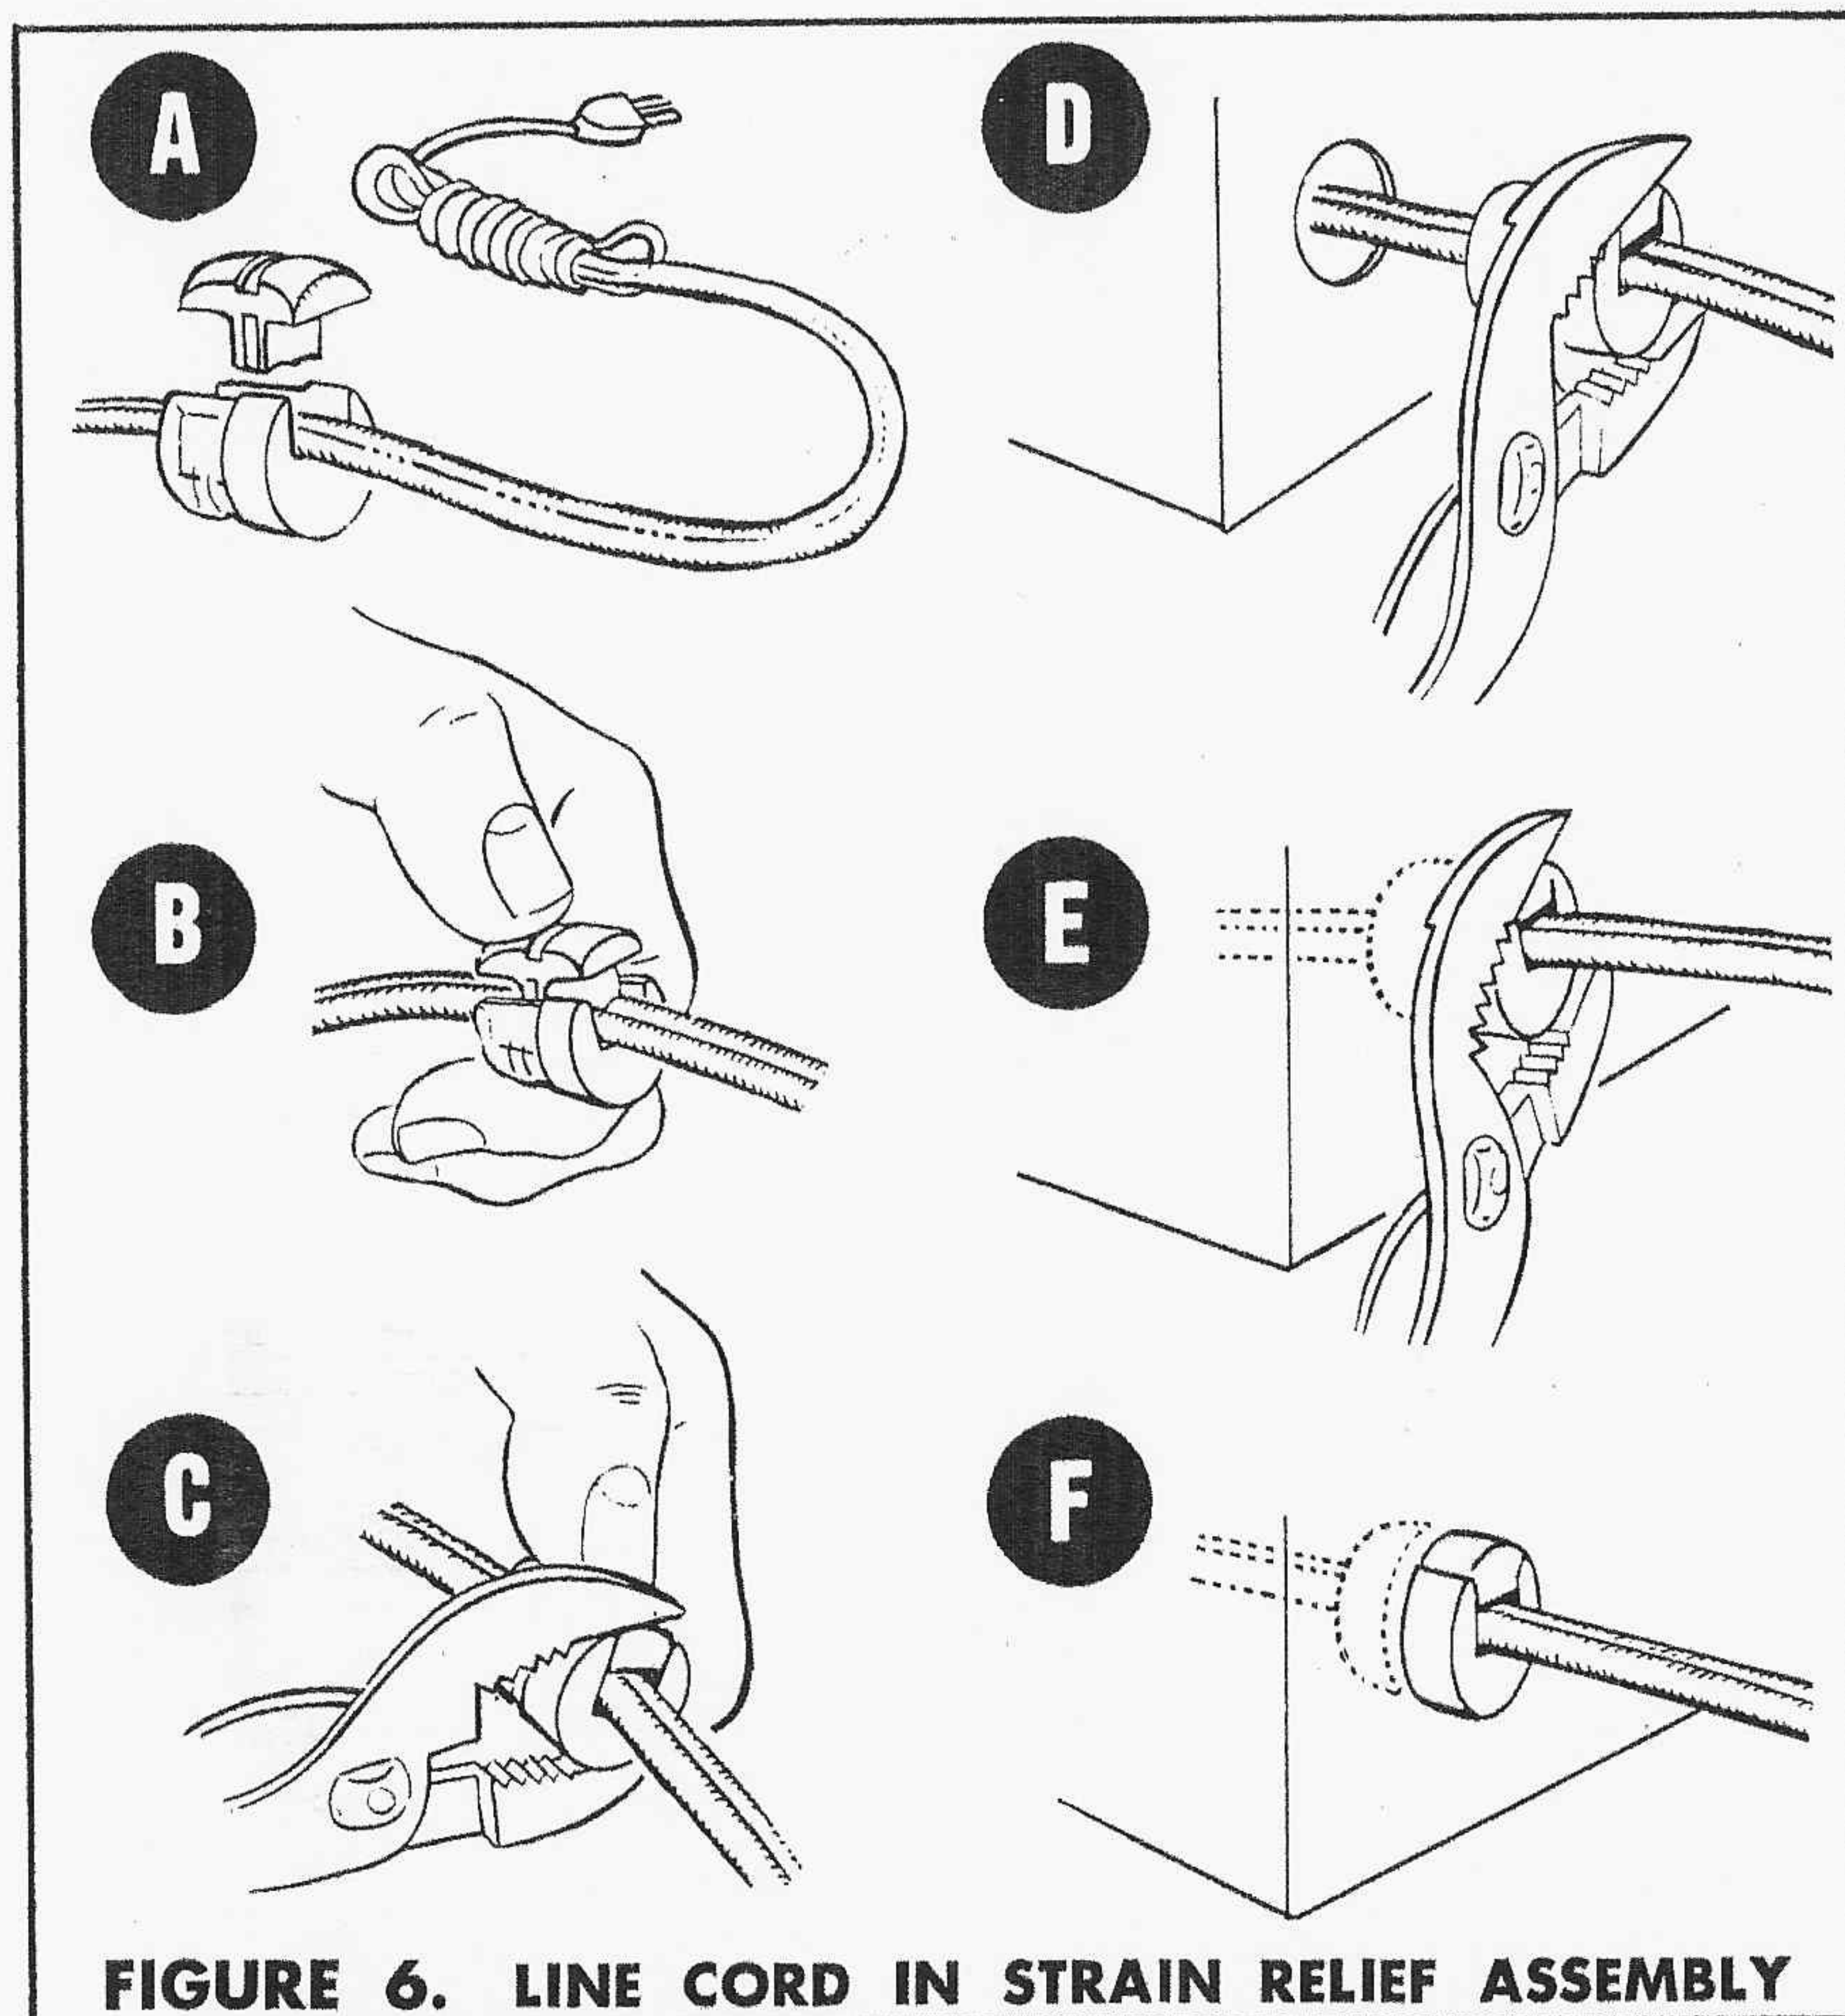

FIGURE 6. LINE CORD IN STRAIN RELIEF ASSEMBLY
85. (✓) Cut each lead of the 180 ohm 1/2 w resistor R5 (brown-grey-brown-silver) (part #13-34) to 3/4" length, and connect from lug 2 on terminal post BB (S) to pin 1 of socket C (S).
86. (✓) Cut each lead of the 270 ohm 1 w resistor R6 (red-violet-brown-silver) (part #13-82) to 1/2" length, and connect from pin 7 of socket B (NS) to lug 1 on terminal post AA (NS).
87. (✓) Cut each lead of the 4700 ohm 1/2 w resistor R7 (yellow-violet-red-silver) (part #13-18) to 5/8" length, and connect from lug 1 on terminal post AA (S) to lug 2 on terminal post AA (NS).
88. (✓) Cut each lead of the 47,000 ohm 1/2 w resistor R8 (yellow-violet-orange-silver) (part #13-4) to 1" length, and connect from lug 2 on control J (NS) to lug 2 on terminal post AA (NS).
89. (✓) Cut each lead of the 100 K 1/2 w resistor R9 (brown-black-yellow-silver) (part #13-1) to 7/8" length, and connect from lug 2 on terminal post AA (S) to lug 5 on terminal post AA (NS).
90. (✓) Cut each lead of the 750 μ f ceramic disc capacitor C12 (part #12-61) to 1" length, and connect from lug 2 on control J (S) to lug 3 on terminal post AA (NS).
91. (✓) Cut each lead of the 27,000 ohm 1/2 w resistor R10 (red-violet-orange-silver) (part #13-33) to 1" length, and connect from lug 3 on control H (S) to lug 4 on terminal post AA (NS).
92. (✓) Cut each lead of a 0.01 μ f ceramic disc capacitor C13 (part #12-8) to 1/2" length, and connect from lug 4 on terminal post AA (S) to lug 5 on terminal post AA (S).
93. (✓) Cut each lead of a 0.01 μ f ceramic disc capacitor C14 (part #12-8) to 3/4" length, and connect from lug 3 on terminal post AA (S) to lug 6 on terminal post AA (S).
94. (✓) Cut each lead of the 0.005 μ f ceramic disc capacitor C15 (part #12-36) to 1/2" length, and connect from pin 6 of socket C (S) to pin 7 of socket C (S).
95. (✓) Insert the line cord into the two-piece strain relief (part #20-3) as shown in Figure 6, a,b,c. Allow the stripped end to project 3" beyond the strain relief. Feed the stripped end through the chassis hole R, and insert the strain relief as shown in Figure 6, d,e,f. Connect one stripped end to lug 1 on the terminal post BB (S); run the other stripped end through pin 4 on socket B and connect to pin 5 of socket B (NS). Solder pin 4 (S).
96. (✓) Cut the leads of the 0.01 μ f ceramic disc capacitor C16 (part #12-8) to 1/2" length, and connect from pin 5 of socket B (S) to pin 7 of socket B (S).